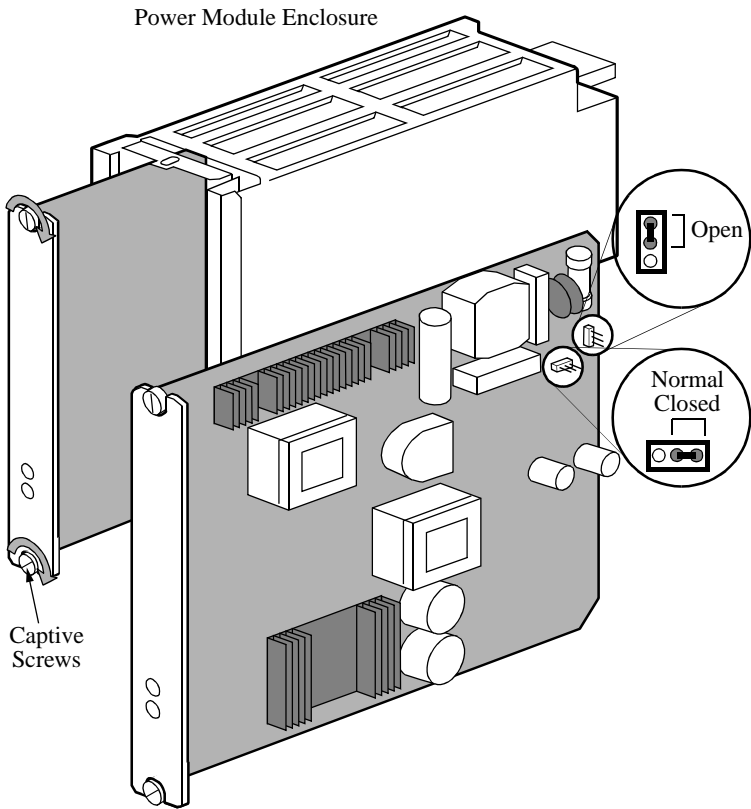

Figure 1-12. Power Module Alarm Circuit Switches
6.	<p>Optionally, connect a remote alarm monitoring device to the AccessWay, to alert you to a fault in the DC output voltage.</p> <ol style="list-style-type: none"> a) Determine whether you want the alarm relay contacts open or closed when AccessWay output voltages are within normal operating range. The default setting is Normal Open. b) Optionally, reverse this setting: at the front of the AccessWay, loosen a power module's captive screws and pull the power module out of the AccessWay. Set the jumper to the Normal Closed position (Figure 1-12). Replace the power module in the AccessWay. Tighten the captive screws that secure it. c) Connect two lengths of wire from the alarm monitor device terminals to the ALARM 1 terminals on the back of the AccessWay.